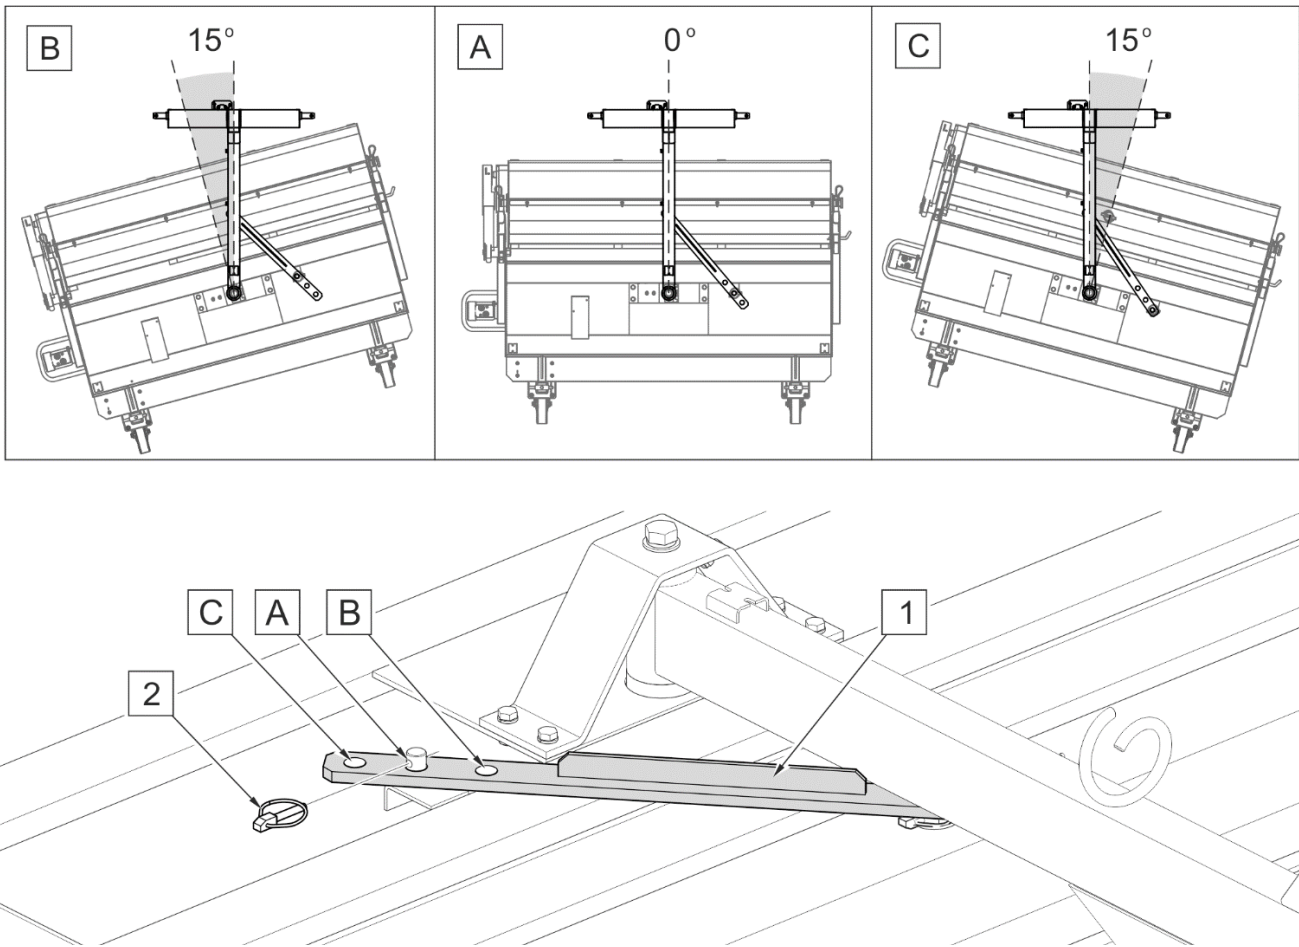

FIG. 4.8 Changing the sweeper's working angle
(1) - strip; (2) - securing cotter pin; (A) - tilt: 0 °; (B), (C) - tilt: 15 °
In order to set the working angle of the roller brush (FIG. 4.8) change the position of the pin in the appropriate retaining hole (A), (B), (C) of the strip (1). The pin is installed in hole (A) of the strip (1) when the sweeper's tilt during operation is 0 °. Lock the pin in selected position using securing cotter pin (2). The pin is installed in holes (B) and (C) when the working sweeper is tilted by 15 ° to the right and to the left. The sweeper should be set at an angle during operation without the waste collecting tank.